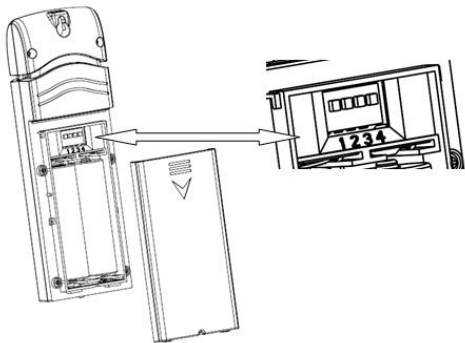

Figure 4: Battery installation
1.Remove the battery door on the back of the transmitter(s) by sliding down the battery door, as shown in Figure 4 .
Channel Number: This device supports up to eight sensors. To set each channel number, change Dip Switches 1, 2 and 3, as referenced in Figure 4.